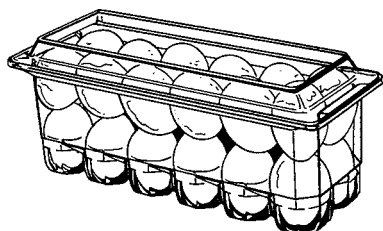

Figure 10.
- a. Some models have a take-to-the-counter egg tray or bucket. See Figure 10.